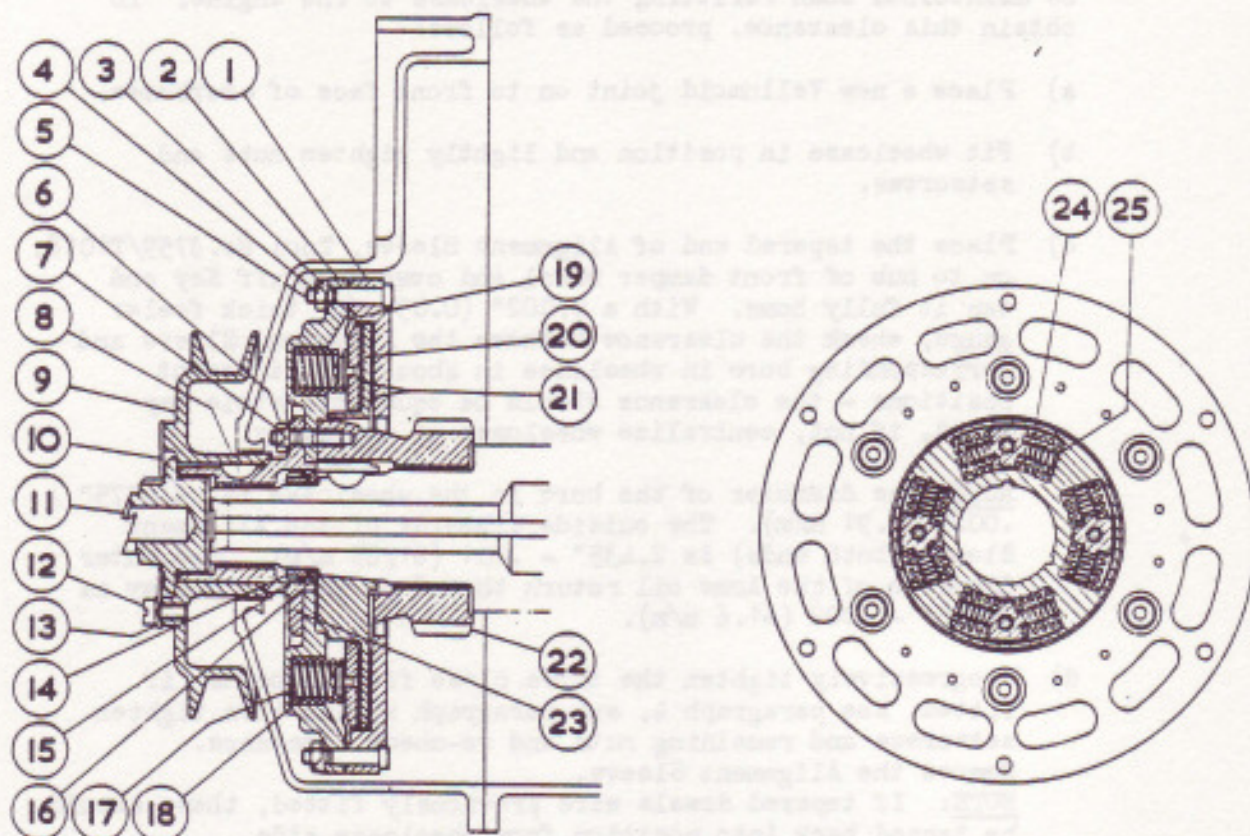

FIG. 28. SECTION - SPRING DRIVE ("BENCH" TYPE).
For the description, refer to paragraph 1. It will be observed upon reference to Fig. 28, that in order to remove the serrated nut(14) retaining the spring drive to the crankshaft, it is not necessary to first remove the front damper wheel (2) as in the case of the "Wraith" type. The serrated nut is exposed by removing the hub (23) secured by four nuts.
- (ii) Remove star locking plate (10 Figs. 28 & 29) from fan pulley.
- (iii) With box spanner 1649/T3, unscrew starting dog (11) from hub (23) and pull off the fan pulley - if necessary, ease it back with two small levers.
- (v) Remove the four nuts (7 Fig. 28) and withdraw hub.
- (ii) Bend back tabs of lockwasher (15 Fig.28), and with the serrated spanner 3759/T1007, remove nut 14, (R.H. thread) from crankshaft. Remove the plain washer (16).
- (vi) Carefully place the spring drive on the mandril (see "NOTE" below) and over the Woodruff key. Remove the six nuts (4) from rim of damper wheels, but in order to prevent the rear damper wheel (1) from slipping downwards, hold it upwards prior to removing all the nuts. Remove the front damper wheel (2), taking care not to lose any of the six damping springs(18) and adjusting washers (17) if the latter are fitted.
The recommended slipping load of the damper wheels is 14-lbs. + 1-lb. (6.35 Kgs) applied at a radial distance of  $17\frac{1}{2}$ " (44.45 cms). The load is checked with the spring drive assembled, but less the driving springs (24 & 25 Fig. 28).
The procedure of preparing, fitting and ironing the friction washers and the checking of the damper slipping load is basically the same as paragraph 8. Note should be taken of the fact that it will be necessary to temporarily fit the hub (23 Fig.28) securing it with two nuts placed diametrically opposite to one another prior to ironing the washers and the subsequent checking of the slipping load.